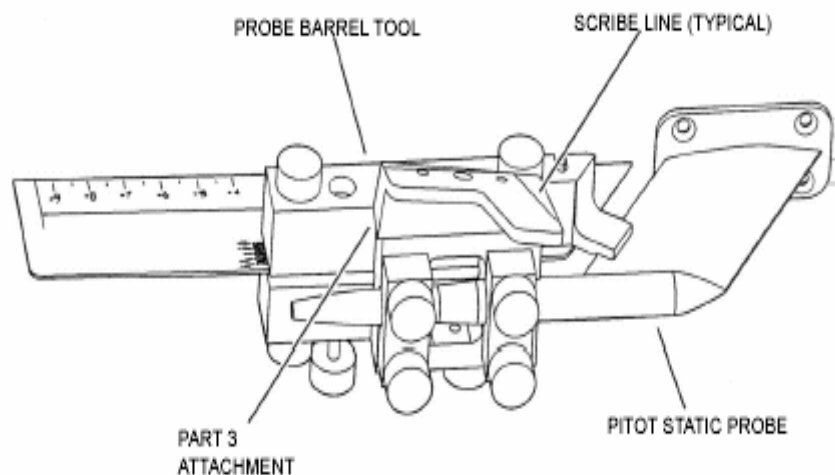

Figure 1, Rosemount Pitot Static Probe Alignment Tool
A. Rosemount Pitot-Static Probe Alignment (See Figure 1, Rosemount Probe Alignment Tool).